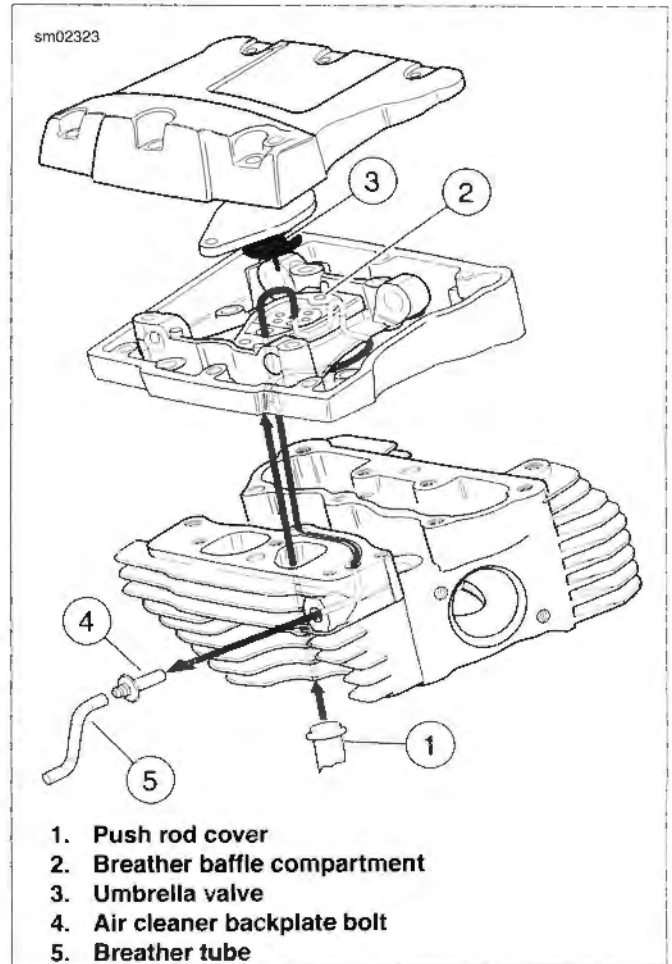

Figure 3-11. Breather Air Flow
See Figure 3-11. As each piston pushes downward, displaced air in the crankcase is vented through the crankshaft roller bearing into the cam compartment and then up the push rod covers (1) into the rocker housing. The moving air absorbs a small amount of oil vapor as it travels through the engine.